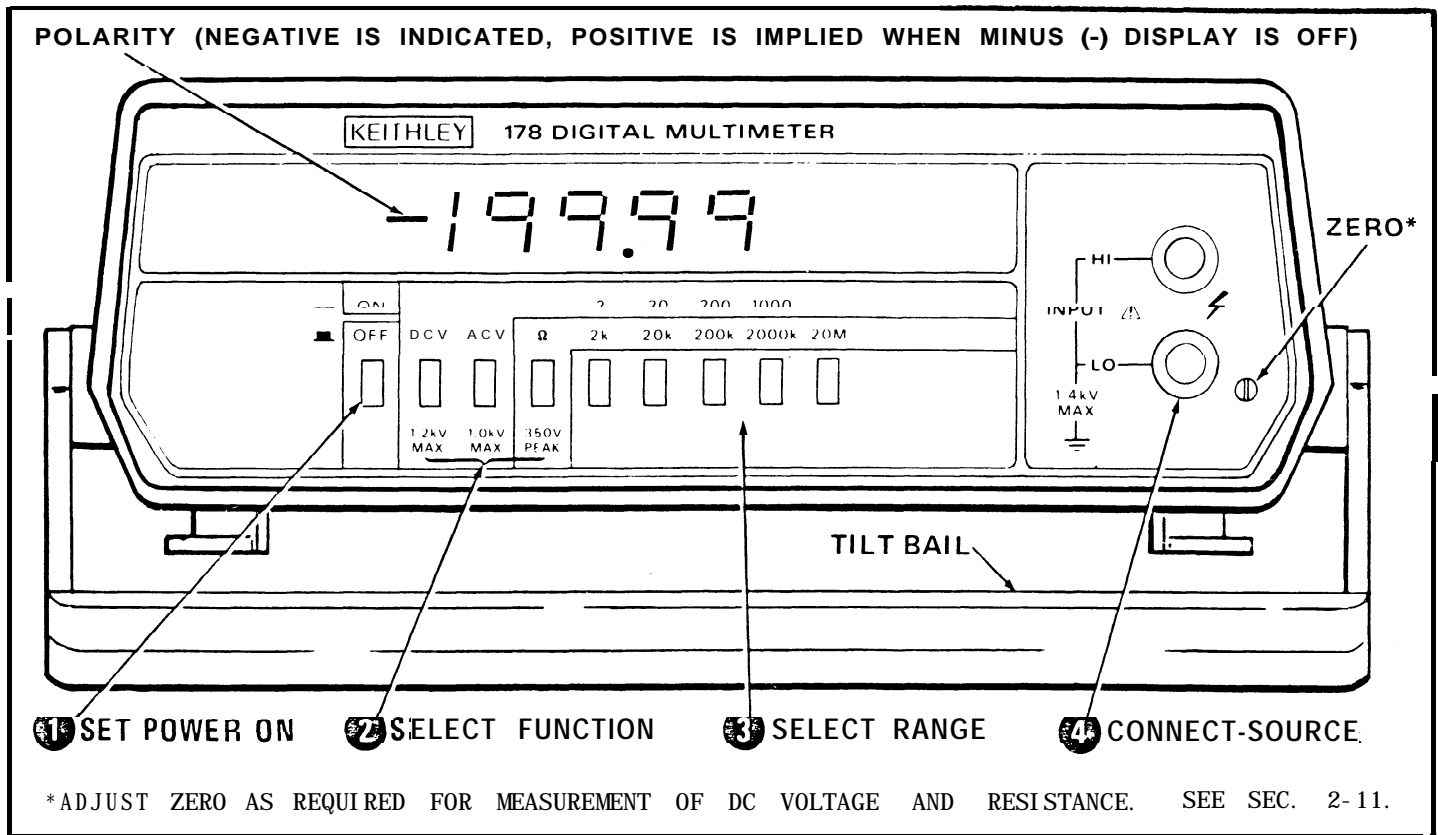

FIGURE 2-3. Operating Controls.
- 2-7. OPERATING INSTRUCTIONS.** Refer to Figure 2-3 and operate the DMM as follows: